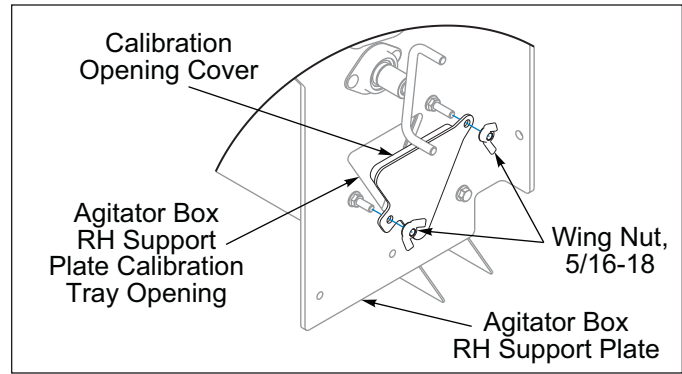
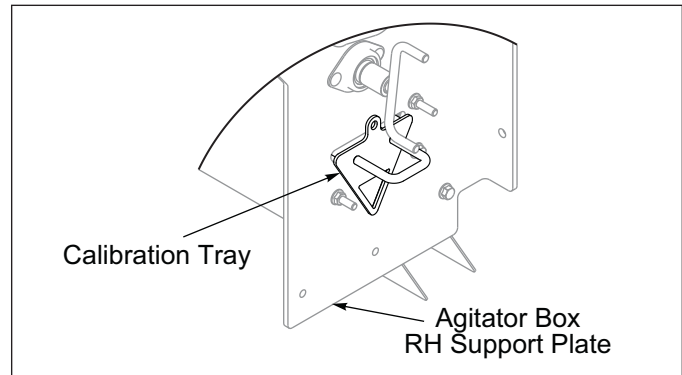

Figure 3-24: Calibration Opening Cover - Agitator Box
Figure 3-25: Calibration Tray Collection Position - Agitator Box
3. Place Calibration Tray in collection positions to catch seed. Remove the 5/16-18 Wing Nuts that secure the Calibration Tray Cover over the opening in the Agitator Box RH Support Plate. **See Figure 3-24.** Remove the 5/16-18 Wing Nut that secures the Calibration Tray in the storage position. Orient the Calibration Tray with Handle to the top and insert it into the Agitator Box RH Support opening. **See Figure 3-25.**